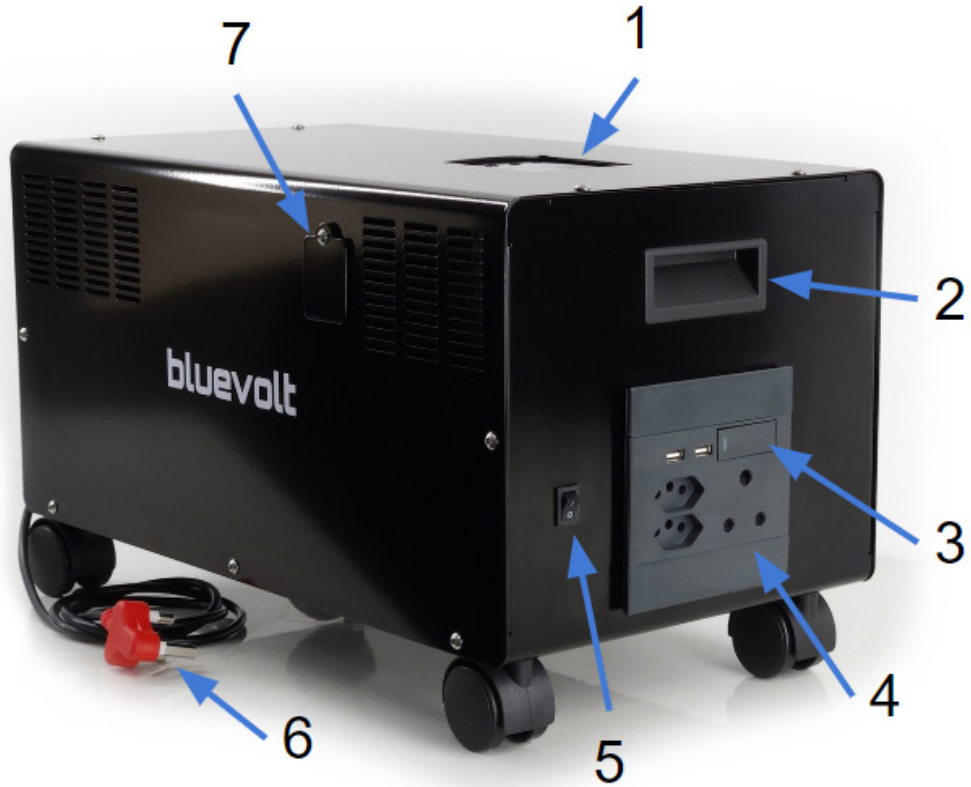
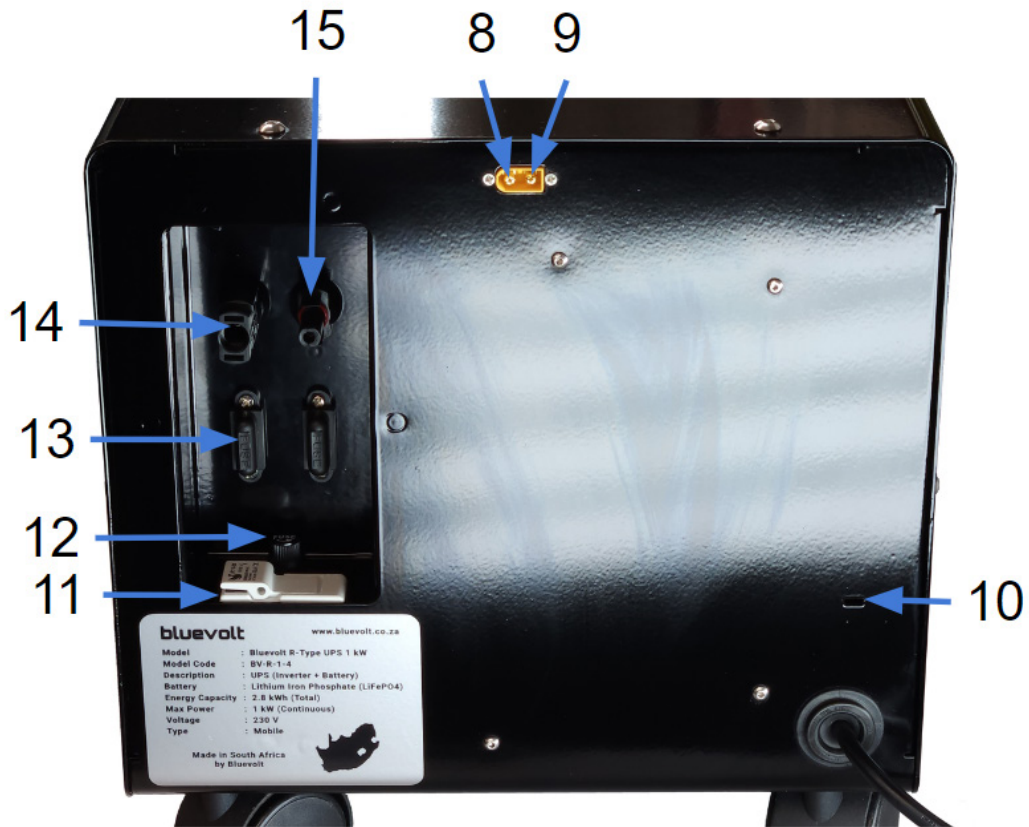

Figure 2.1 Labeled image of Bluevolt R-Type
Figure 2.2 Labeled image of Bluevolt R-Type
Ensure that the unit is fully charged before storing for a maximum of 2 months. Shutdown the power system by switching the battery off using switch (5), as shown in *Figure 2.1 Labelled image of Bluevolt R-Type*.
Solar input integration is achieved through the use of MC4 connectors, which are clearly marked as items (14) and (15) in Figure 2.2, titled "Labelled image of Bluevolt R-Type". Please note that these MC4 connectors are equipped with a 32 A fuse as a safety measure.
7. First try turning the battery on using the switch shown by (6) in *Figure 2.1 Labelled image of Bluevolt R-Type*.
The power system should be completely shut down for transport as the cooling vents may become obstructed when packed close to other items. Refer to labeller images *Figure 2.1* and *Figure 2.2* and follow these steps: